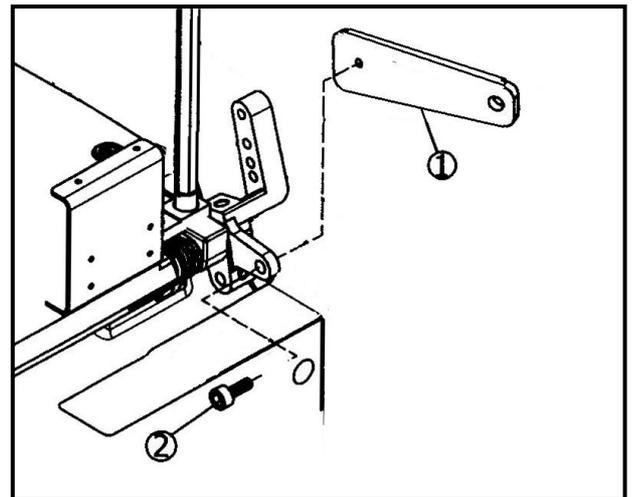

Fig.2
設置壓腳連接軸①螺絲②。(Fig.2)
Set the presser foot connecting lever① with the screw②.(Fig.2)